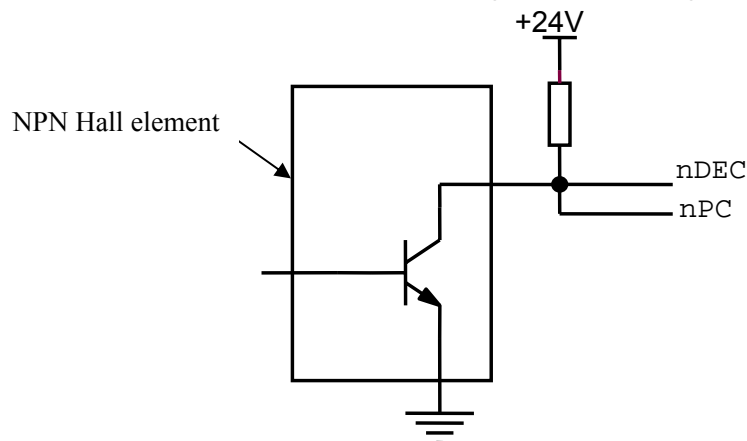

Fig. 2-9 Wiring by a NPN Hall element
- b) The wiring of NPN Hall element taken as both DEC signal and zero signal is shown in Fig. 2-9: